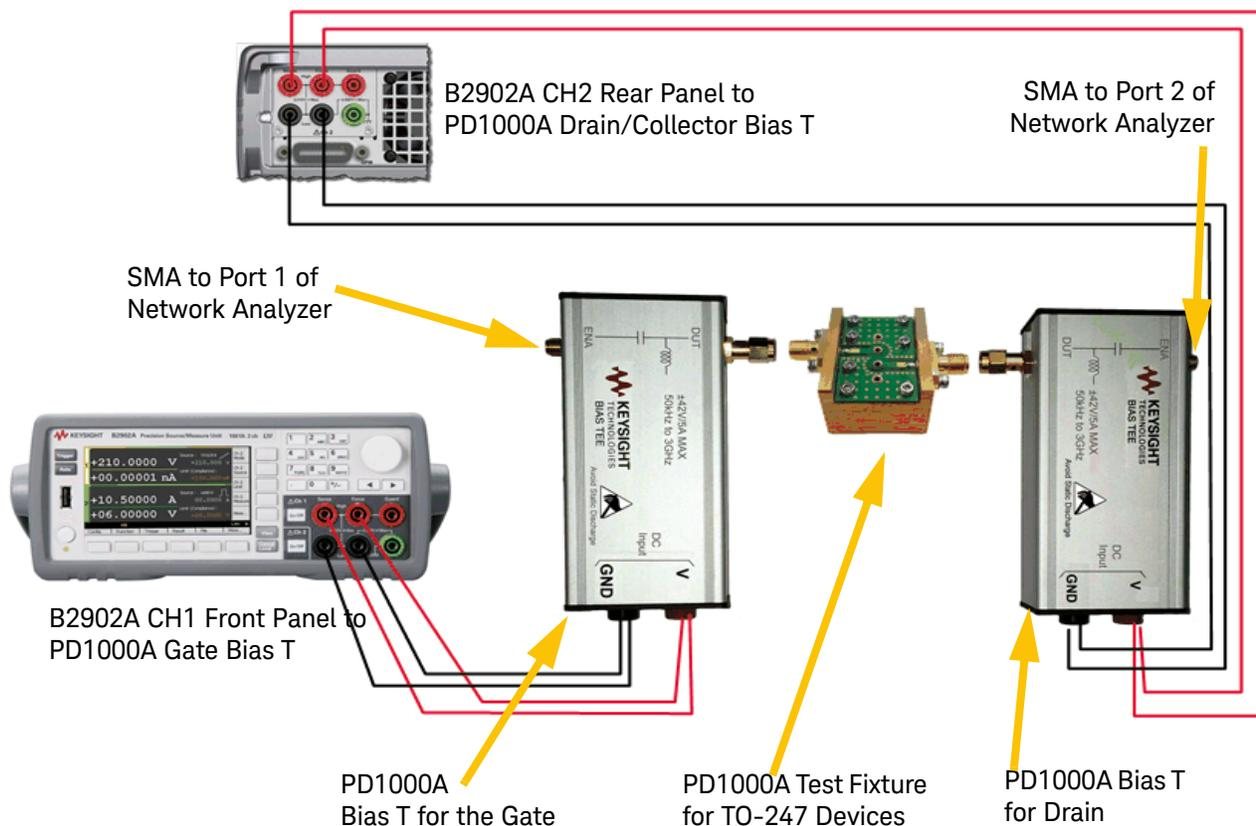

Figure 4 PD1000A Bias T Networks used with the B2902A SMU
Figure 4 below shows how to connect two PD1000A Bias T Networks to the B2902A Source Measure Unit (SMU). Channel 1 on the SMU (front panel) connects to the PD1000A Bias T for the RF input (Gate) to the device under test (DUT). Channel 2 on the SMU (rear panel) connects to the PD1000A Bias T for the RF output (drain or collector) of the DUT.
- 1 Connect the test fixture to the E5080A ENA as shown below. Use two PD1000A-BST Bias Tees. See Figure 4 on page 14.